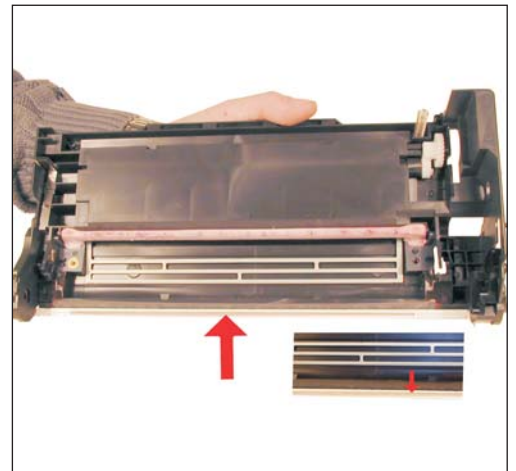

Figure 36
17). Make sure that the white bar on the edge of the waste chamber is clean. This bar houses the Primary exposure LED's. This is an array of LED's that start the printing process, preconditioning the drum so that the PCR can charge it evenly. See Figure 36